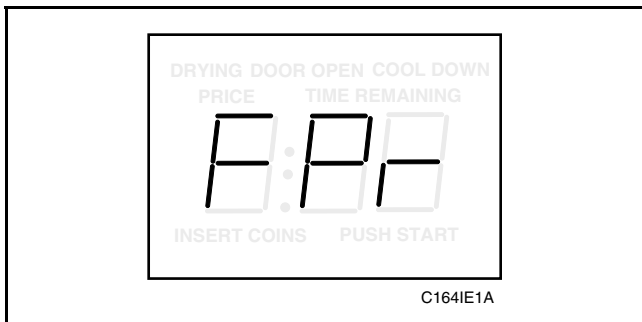

Figure 62
3. Press the LOW TEMP (+) pad or the NO HEAT (-) pad to scroll through the programmable options until “FPr” appears in the VFD, *Figure 62*.